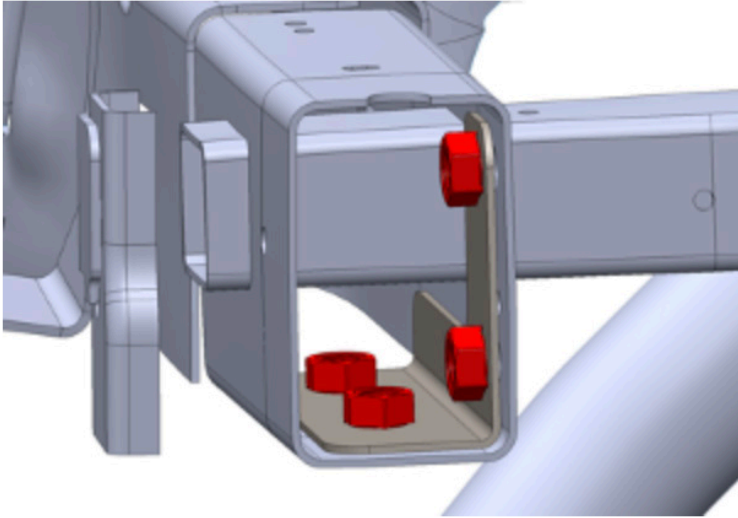

Figure 10.
11. Place the bumper weld nut plate into the driver and passenger side frame ends. Line the weld nuts up with the drilled holes from steps 3-4. Figure 10.